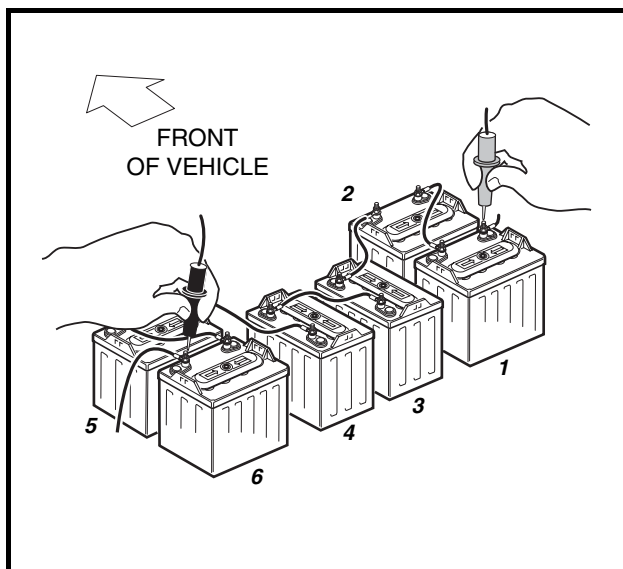

Figure 11-5 Battery Voltage Test
1. With batteries connected and using a multimeter set to 200 volts DC, place red (+) probe on the positive (+) post of battery no. 1 and the black (–) probe on the negative (–) post of battery no. 6 (**Figure 11-5, Page 11-13**). The multimeter should indicate at least 48 volts with the batteries fully charged. If not, check for loose battery connections or a battery installed in reverse polarity. Refer to Section 14 – Batteries, for further details on battery testing.